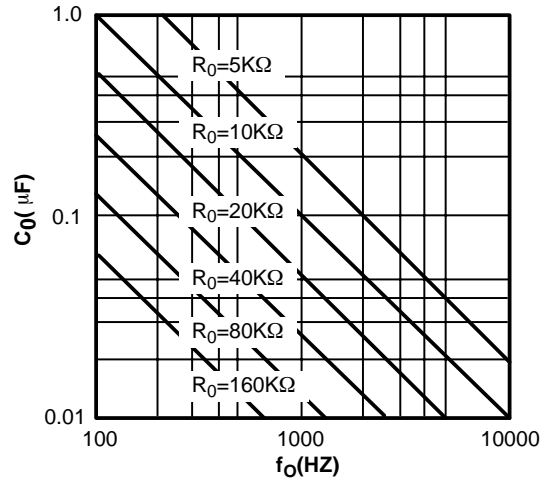

Figure 6. VCO Frequency vs. Timing Resistor
VCO Timing Capacitor (Pins 13 and 14): VCO frequency is inversely proportional to the external timing capacitor, C₀, connected across these terminals (see *Figure 6*). C₀ must be non-polar, and in the range of 200pF to 10 μ F.
- Calculate value of C_0 from design equation (1) or from *Figure 6* $f_S = f_0$: